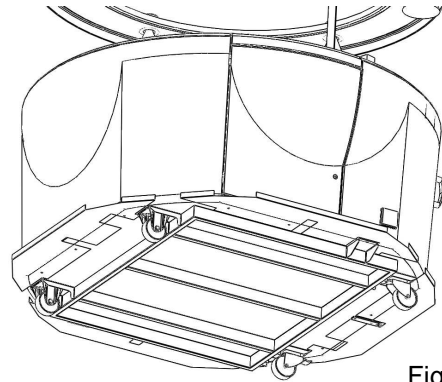

Fig. 02
- Begin by placing the kiosk on a flat, level surface. Remove the cardboard packaging and the metal sheets that support the packaging. (Fig. 02)